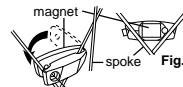

Fig.5
Mounting to Bike (Fig.5 to 12)
- The spokes must run correctly through the inside of the magnet as in Fig. 5.